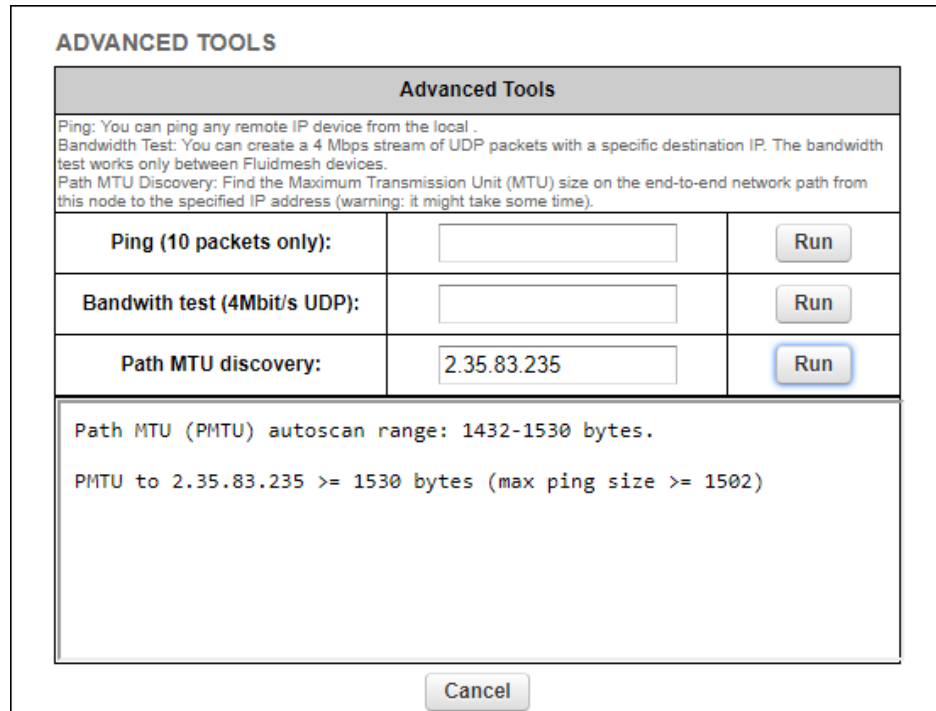

Figure 33. Advanced Tools window (Path MTU test tool)
2. Enter the IP address of the second unit in the **Path MTU discovery** field (Figure 33 \(page 89\)).